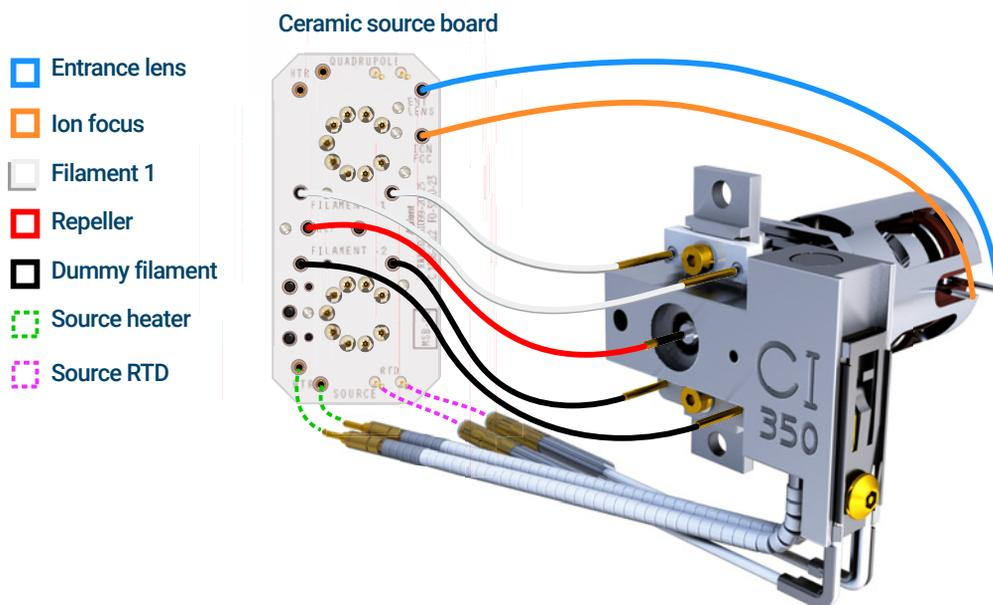

Figure 84. Wiring between the CSB and the CI source
- 1 Use tweezers or pliers to connect or disconnect the ceramic board wire leads at the source connectors. (See **Figure 84.**)